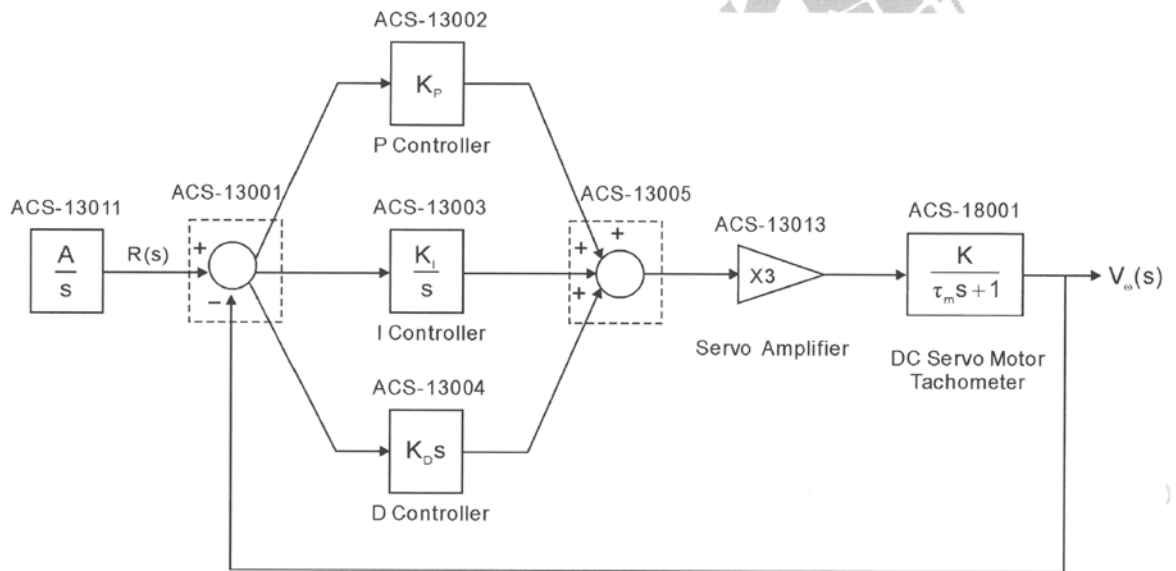

Figure 3. Block diagram.
10. Complete the connections by referring to the block diagram and wiring diagram shown in Figures 3 and 4.